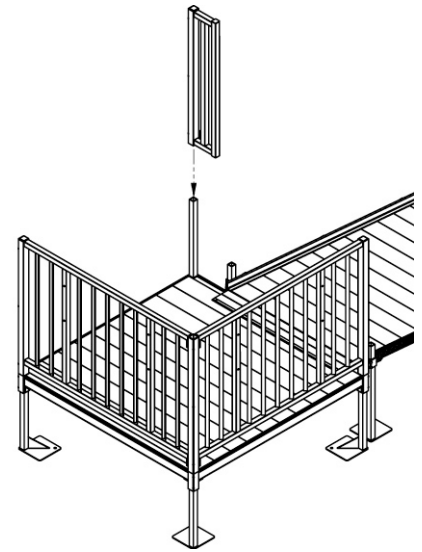

FIG. 24
- 5.3.3 Place guard filler section over the remaining support leg with the tab brackets facing the outside of the platform (FIG. 24).